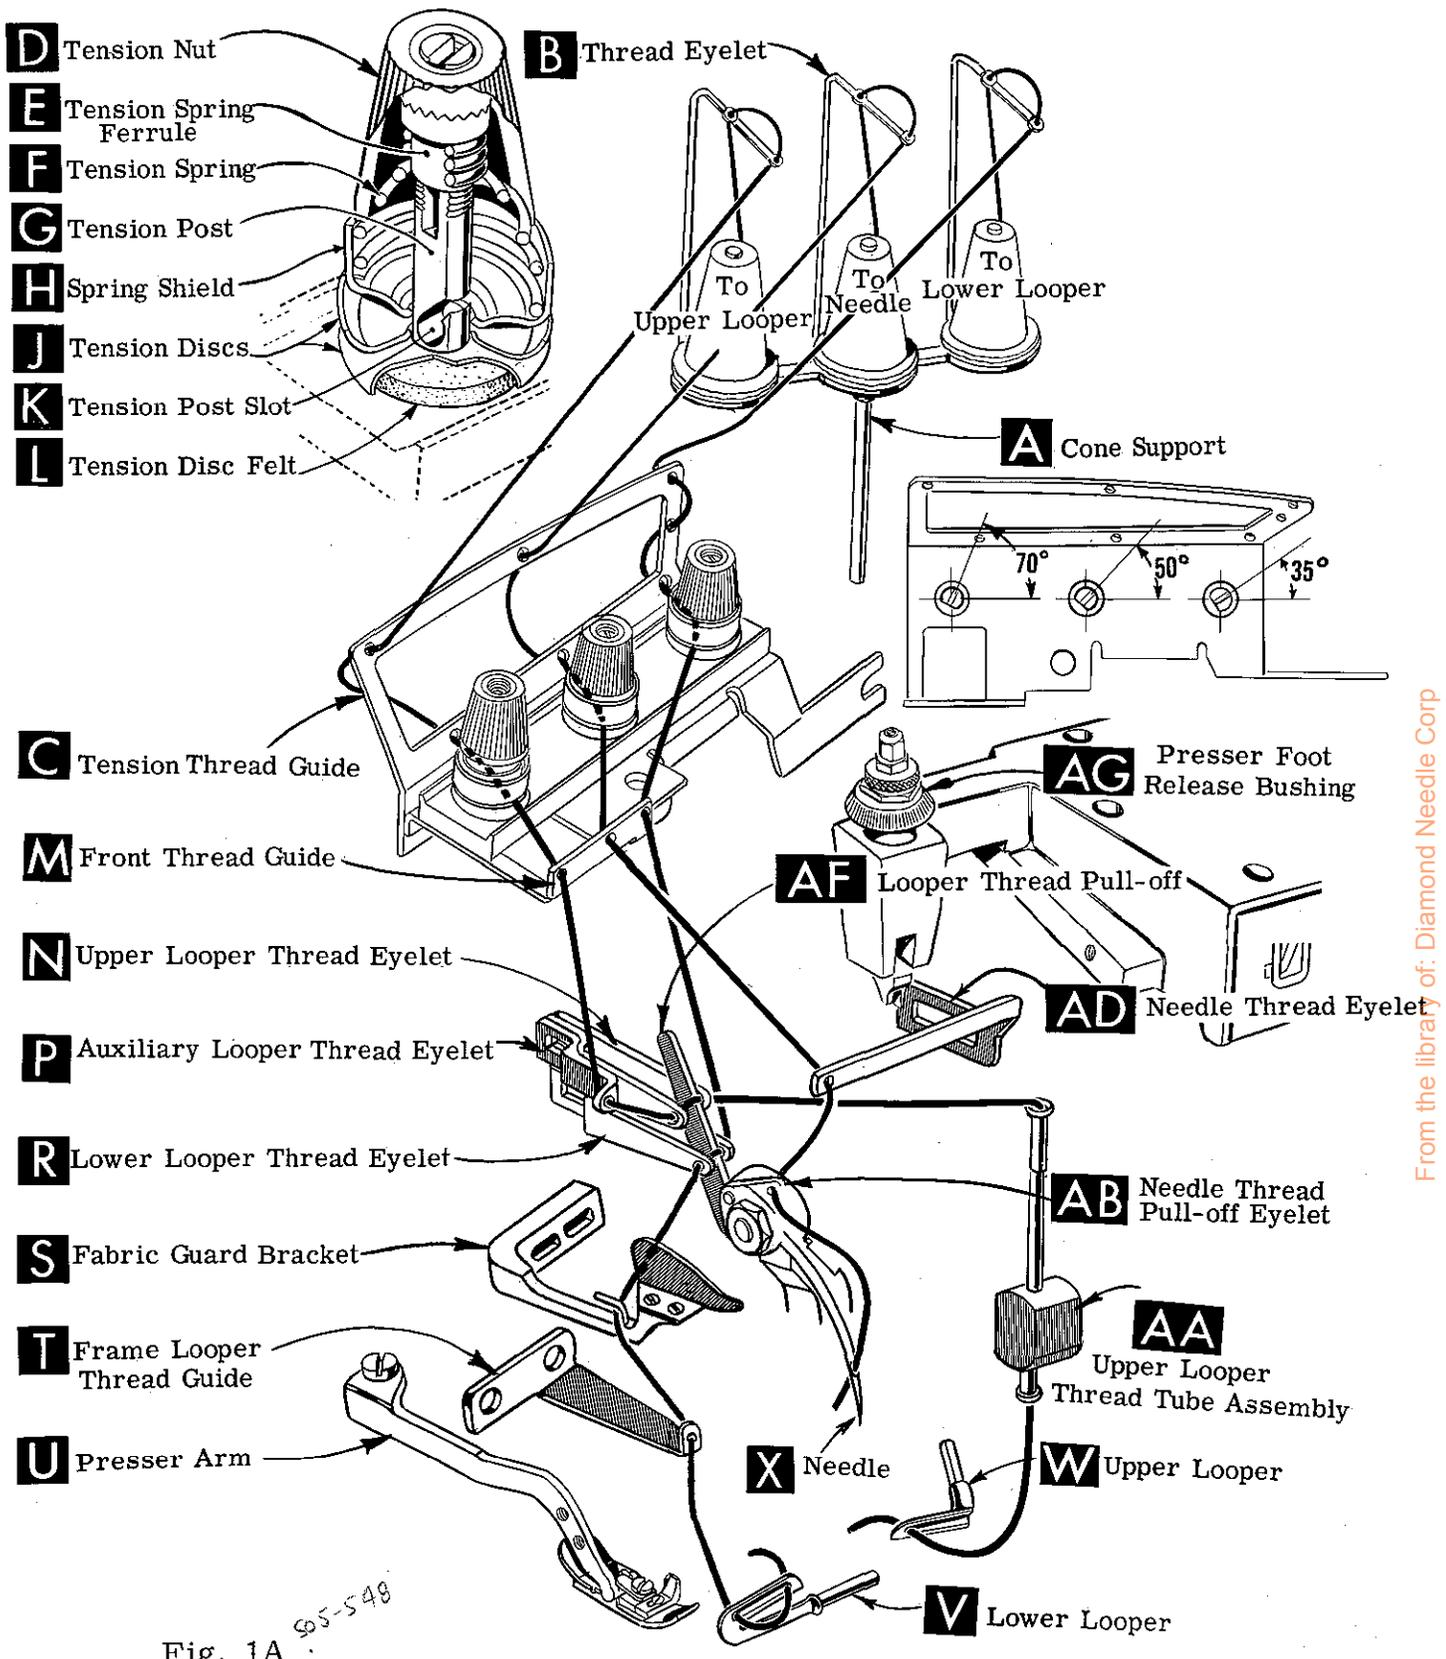

Fig. 1A \$5-548
NOTE: Refer to Fig. 1 for threading Styles 39500 FJ and JJ or refer to Fig. 1A for threading Style 39500 FL.
Double end of thread and lead it through the left eyelet of front thread guide (M, Fig. 1A). Turn handwheel until point of upper looper (W, Fig. 1A) is all the way to the left. Lead thread through auxiliary looper thread eyelet (P) from back to front, then through both eyes of upper looper thread eyelet (N) from left to right. NOTE: thread must pass in front of looper thread pull-off (AF).